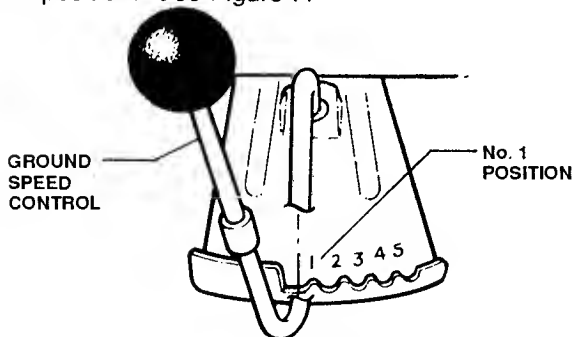

FIGURE 7
1. **SHIFT GROUND SPEED CONTROL** to No. 1 position. See Figure 7.